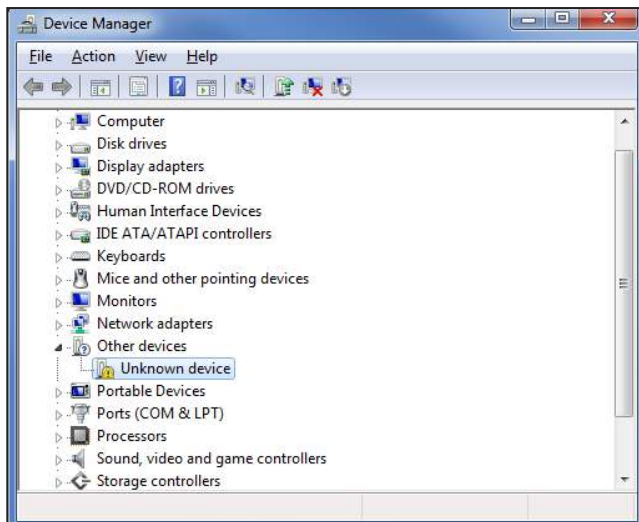

Figure 10. Device Manager Unknown Device Selection
- 2) In the **Device Manager** window, there is a section labeled **Other devices** with a device labeled **Unknown device**. Right-click on the **Unknown device** followed by **Update Driver Software**. See Figure 10.